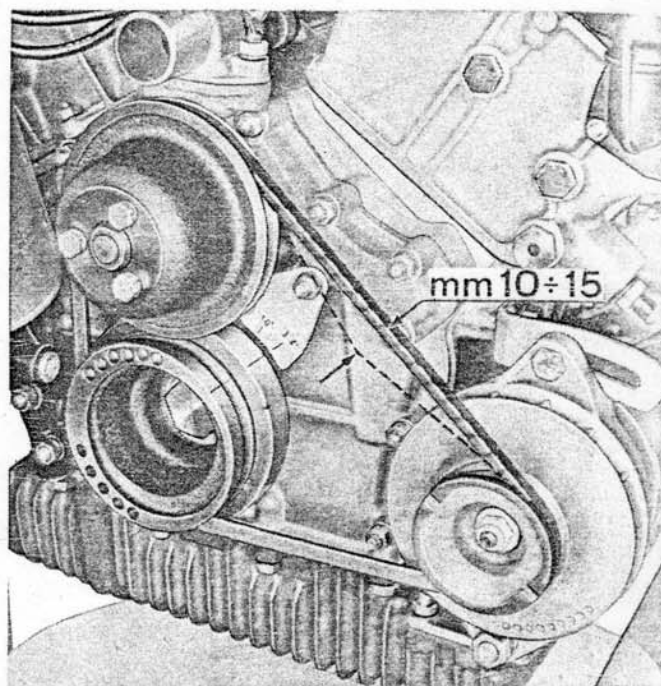

Fig. 41. - Deflection of alternator and water pump drive belt with a pressure of 22 lbs (10 kg).
- now check that with a pressure of 22 lbs (10 kg) the belt shows a deflection of .394" to .591" (10 to 15 mm) (fig. 41).